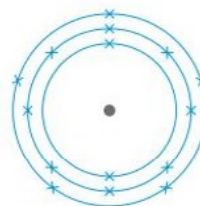

Figure 3 See question 4
- 4 Give the name and symbol of the atom shown in Figure 3. [1 mark]